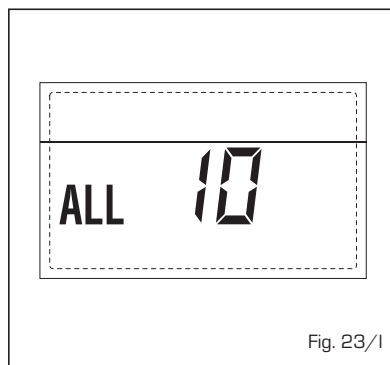

Fig. 23/l
– **ACTIVATION OF THE EXHAUST FUMES THERMOSTAT ERROR 13** (Fig. 23/p)